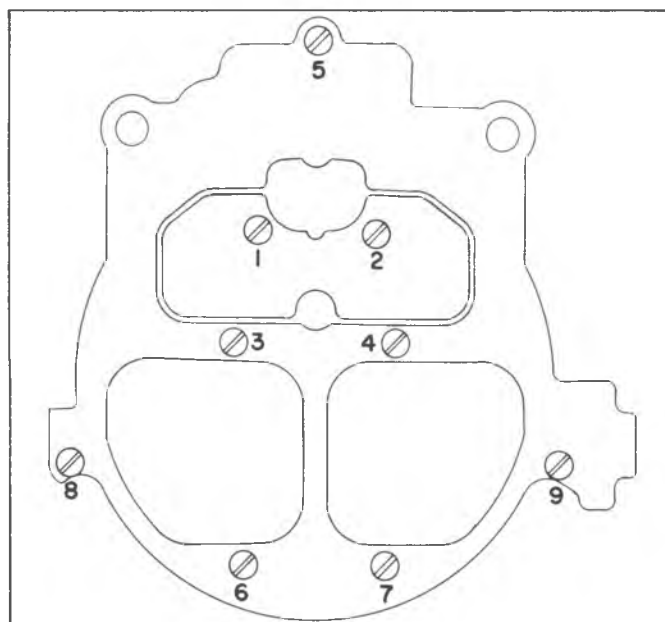

Fig. Q7--Air Horn Tightening Sequence
2. Install two long air horn screws, five short screws and two countersunk screws in primary venturi area. All screws must be tightened evenly and securely (Figure Q7).